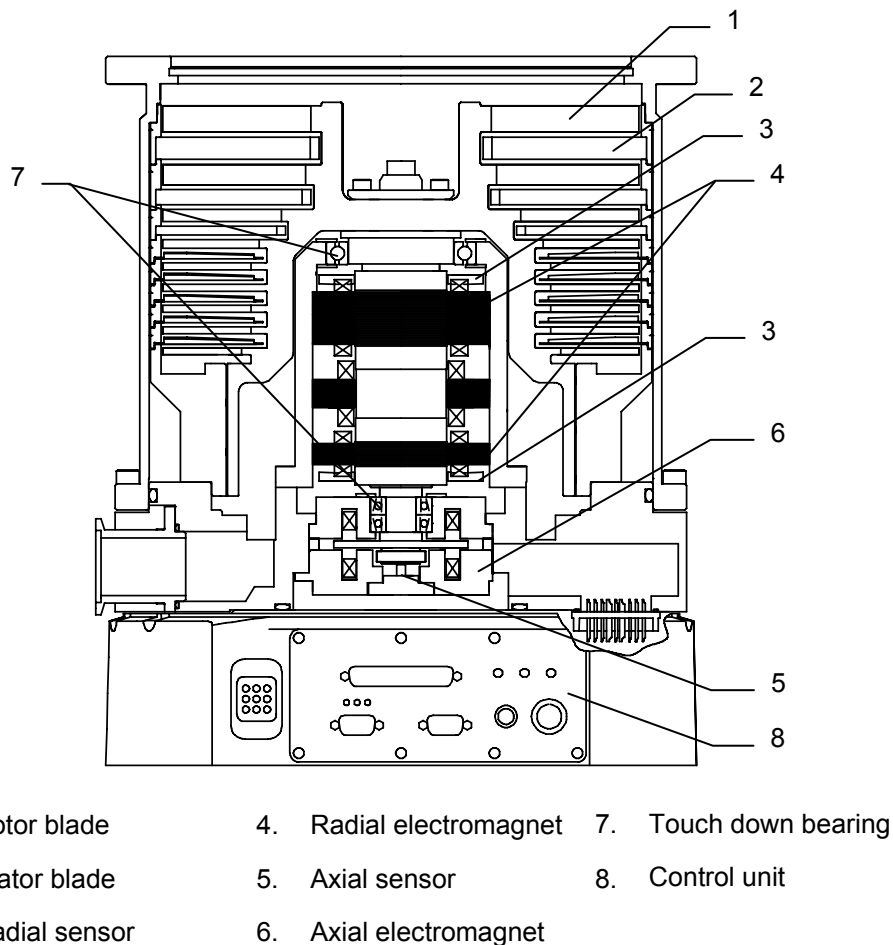

Figure 8 - Cross sectional view of the STP pump
The STP pump (Figure 8) is configured so that rotor blade (1) and stator blade (2) are aligned alternately in the axial direction. Gas molecules are pumped from the inlet port to the outlet port by the high speed rotation of the rotor.